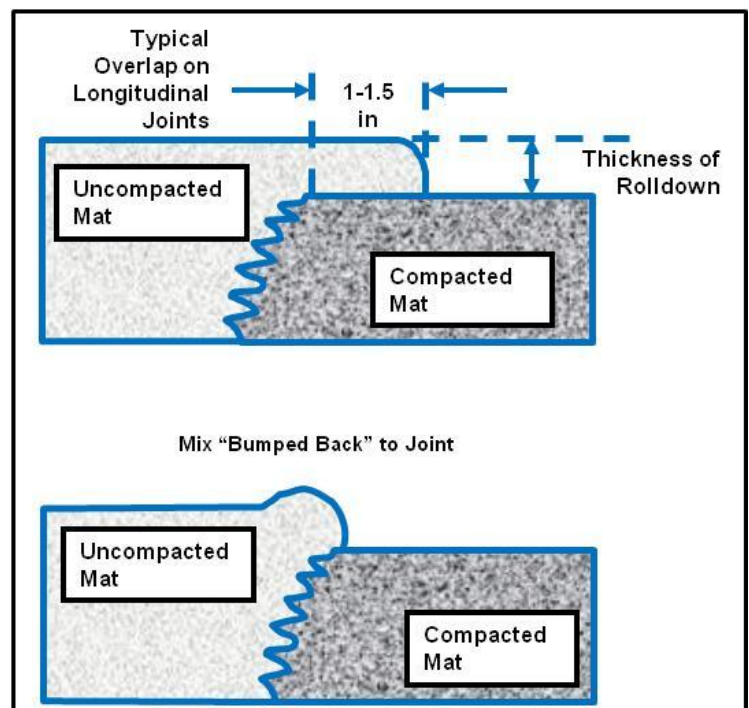

Figure 2. Best practices for placing mix at a longitudinal joint.
- First, overlap the existing lane (of a butt joint constructed with the paver) 1 inch +/- 0.5". When the butt joint is constructed by milling or cutting back the existing lane, the overlap should be about 1/2 inch. If the overlap exceeds 1.5", carefully remove the excess with a shovel. See Figure 2.